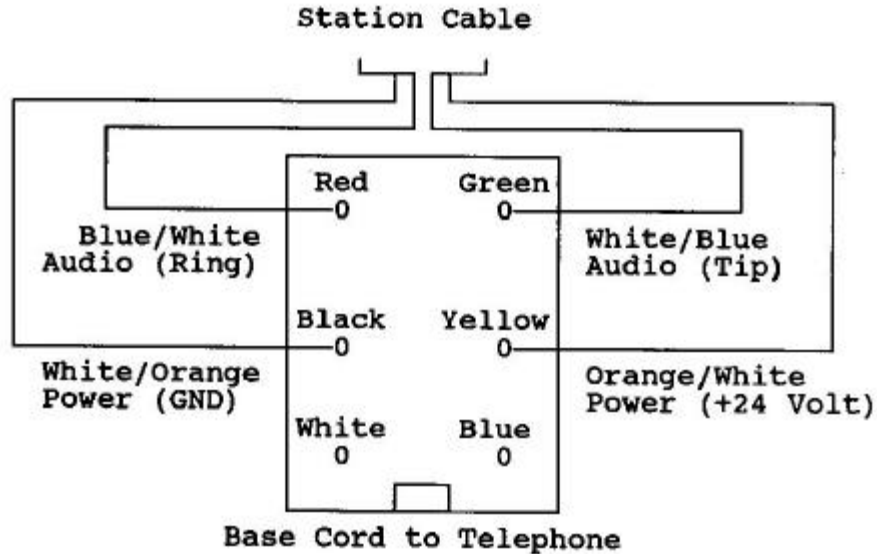

FIGURE 10: Wiring to Modular Box
6.39. Before connecting the Keyphone to the modular jack, check for the correct voltage (24 Volt) across the black and yellow terminals on each modular jack assembly. (Refer to Figure 10)